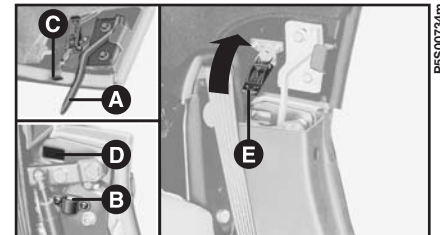

fig. 63
4) Lower the hard top, and fit pins **A**-fig. 63 into anchorage points **B** on the car (for the sole purpose of better showing anchorage points **B** in fig. 63 the guard on the car has been removed).